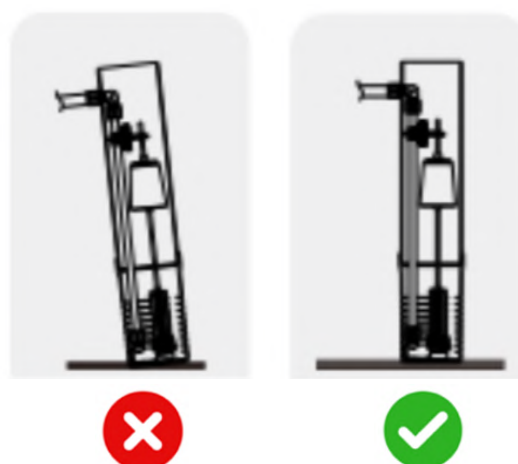

Figure 3
- To avoid backflow of wastewater from the drain back into the Brine tank of the machine via the water outlet / drainage pipe, the wastewater outlet / drain trap must be significantly lower, preferably vertically beneath the overflow connector pipe of the machine. As illustrated in Figure 3 below